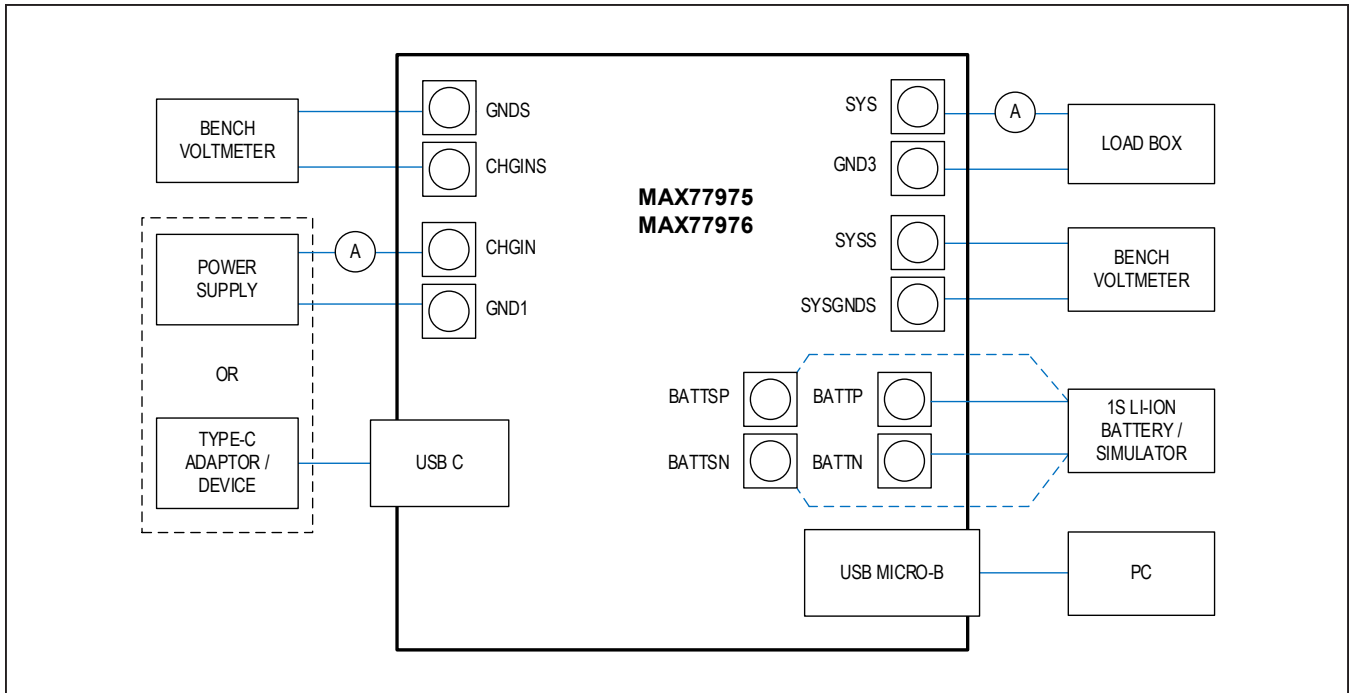

Figure 1. MAX77975/MAX77976 EV Kit Board Connections. The power supply and the USB Type-C adaptor can NOT be applied at the same time.
- 5) Make connections to the EV kit board following guidance as shown in Figure 1. The two main inputs to apply are the battery and the charging adaptor. For quick start evaluation, it is suggested to use a 5V power supply at the CHGIN input and a battery voltage greater than 3.6V at the BATT input. The optional voltmeter and ammeter location for testing charger efficiency is indicated in Figure 1. When set up properly with both CHGIN = 5V and BATT = 3.8V input, the SYS voltage is regulated above VBATT by default.